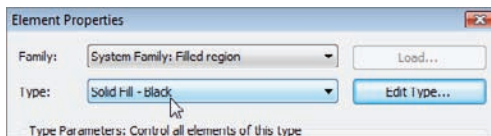

FIGURE 12.24 Changing the region to Solid Fill - Black
2. In the Properties dialog, click the Edit Type button, and make sure Type is Solid Fill - Black, as shown in Figure 12.24.